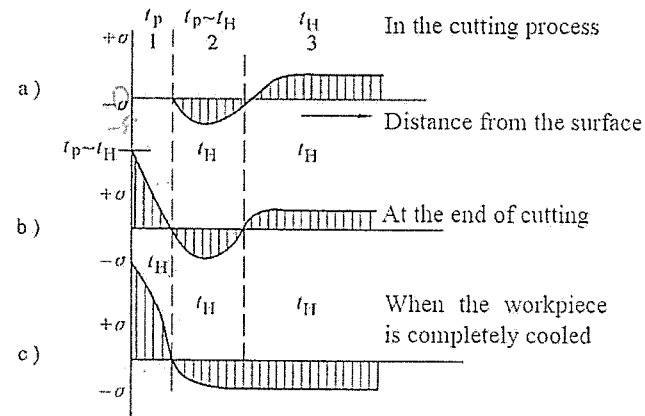

Figure 6
(3) 使合格零件的标准即工序公差 $T = \Delta + \Delta L$ 。
12. Analyze the influences of cutting heat on residual stress on the machined surface of the workpiece in the cutting process, at the end of cutting and when the workpiece is completely cooled in the machining process based on Figure 6. Here, t_H representing room temperature when the workpiece has high plasticity and t_p refers to the temperature; $+\sigma$ and $-\sigma$ represent tensile stress and compressive stress, respectively; 1, 2 and 3 represent three layers of metal at different distances from the workpiece surface, respectively. (6 points)